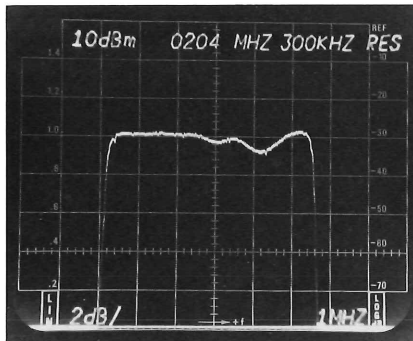

Figure 6-3. Digital storage display of processor response.
2. The signal insertion step (9) may impose a number of variables such as cross channel conversions, AGC and AFC circuits, and automatic signal sense circuits. Each case may require a slight modification to the approach but can be successfully accommodated with the foregoing procedure.
3. When the 7L14 is used, the same procedure is followed except that MAX HOLD is used to store the swept display. Position the PEAK/AVERAGE cursor at the bottom of the screen and turn MAX HOLD on just before sweeping the processor (figure 6-3). Turn off MAX HOLD to clear the screen.